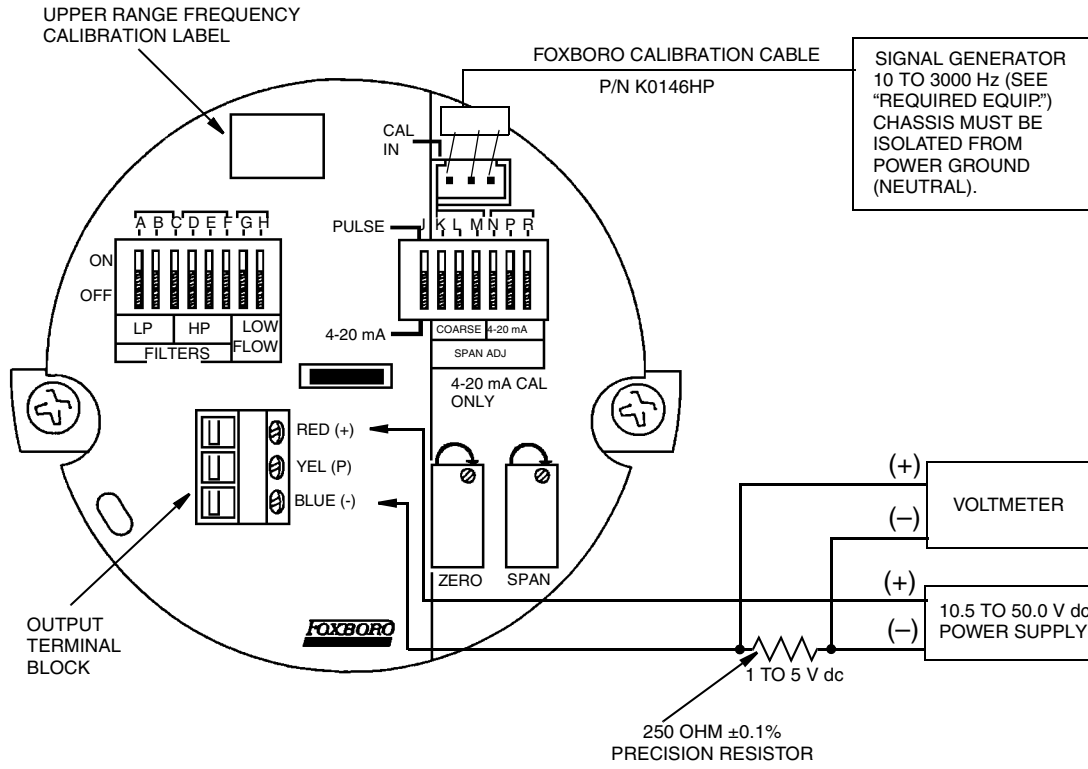

Figure 29. Analog Electronic Module Calibration Hook-Up
1. Hook up the power supply, precision load resistor, and voltmeter as shown in Figure 29 on page 34. Then connect the power to the Red(+) and Blue(-) terminals on the 3-connector terminal block on the front of the Electronic Module.
2. If the calibration cable (K0146HP) is available, connect the signal generator (see “Required Equipment”) to the 3-pin input receptacle marked **CAL IN** on the front of the Electronic Module (see Figure 29).